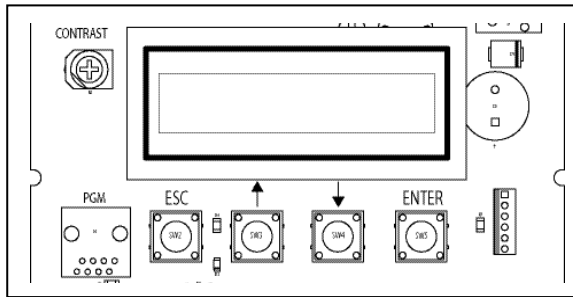

FIGURE 3. ESC, ↑ (UP), ↓ (DOWN), AND ENTER KEY DETAIL
12. Set the GTx116 **POWER ON/OFF** switch to ON, and immediately depress both the **ENTER** and **ESC**ape keys within the first 10 seconds to enter the initialization menu as shown in Figures 3 and 4.